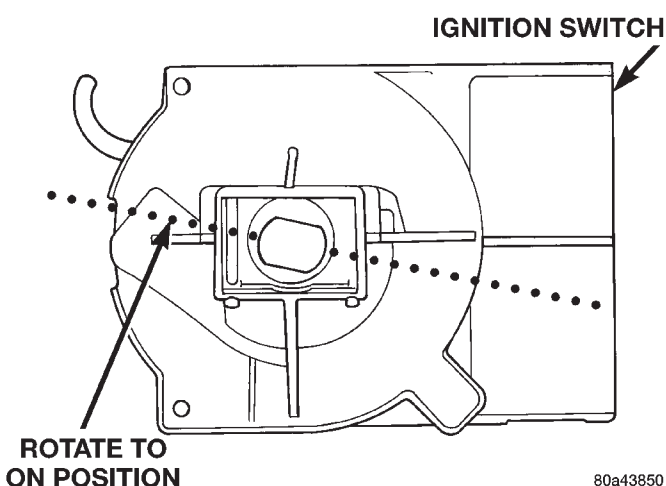

Fig. 48 Switch In ON Position
- (1) Before installing ignition switch, rotate the slot in the switch to the ON position (Fig. 48).
- (2) Position switch to column and install tamper proof screw. Tighten screw to 3 N·m (26 in. lbs.).
- (3) Connect two electrical connectors to rear of ignition switch. Make sure that locking tabs are fully seated into wiring connectors.
- (4) Install steering column lower cover.